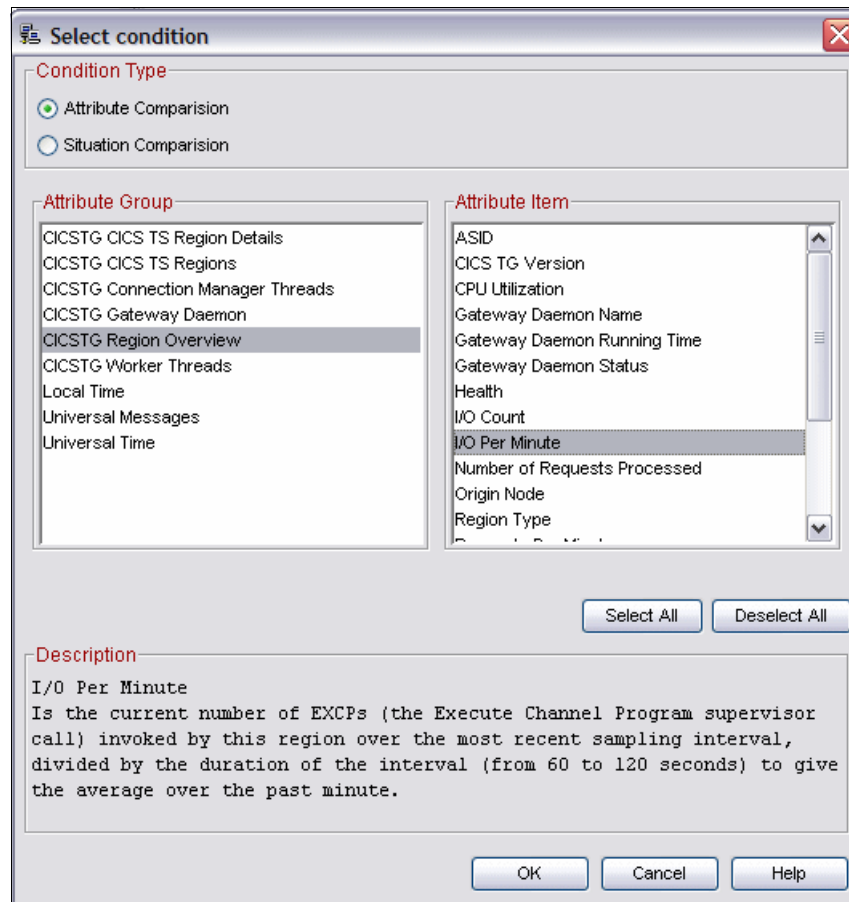

Figure 6-12 Condition selection
6. Click **OK**. Select the attribute that will be used to trigger the alert. We chose I/O per minute, as shown in Figure 6-12.